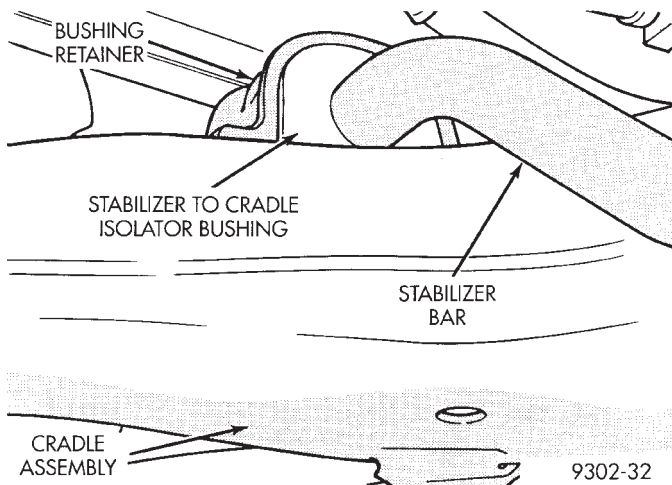

Fig. 2 Stabilizer Bar Isolator Bushing Attachment To Cradle
(1) Remove the 2 bolts each, attaching the stabilizer bushing retainer and bushing to cradle assembly (Fig. 2).
(2) Align the stabilizer bar bushing retainers with the mounting holes in the cradle assembly (Fig. 2). **Install but do not tighten the 4 bushing retainer to cradle assembly mounting bolts. The 4 retaining bolts will be torqued when vehicle is lowered to the ground.**
(3) Lower vehicle to the ground.
(4) With the full weight of the vehicle supported by the suspension. Use a long extension, and torque the 4 stabilizer bar bushing retainer to cradle assembly attaching bolts to 55 N•m (40 ft. lbs.).